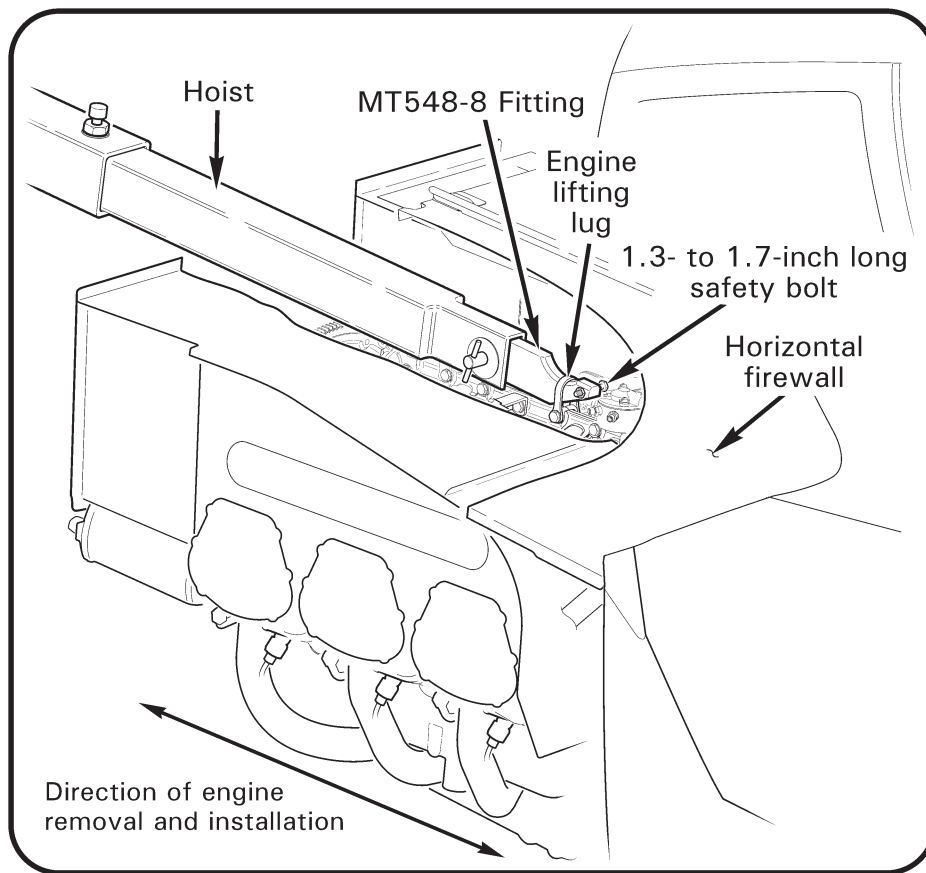

FIGURE 6-1 ENGINE HOISTING
16. Refer to Figure 6-1. Verify lifting lug condition and security. Support engine at lifting lug using MT548-8 fitting with a hoist. Insert a 1.3- to 1.7-inch long bolt thru end of MT548-8 fitting for added security.
4. Refer to Figure 6-1. Connect MT548-8 fitting to engine lifting lug and insert safety bolt. Carefully hoist engine and into alignment with lower frame's mounting pads.